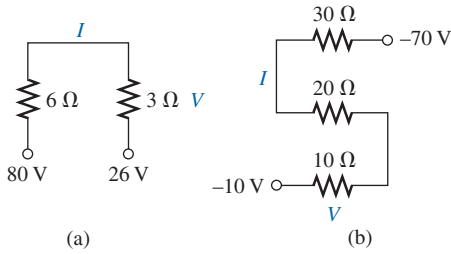

FIG. 5.119
36. Determine the current I (with direction) and the voltage V (with polarity) for the networks in Fig. 5.119.